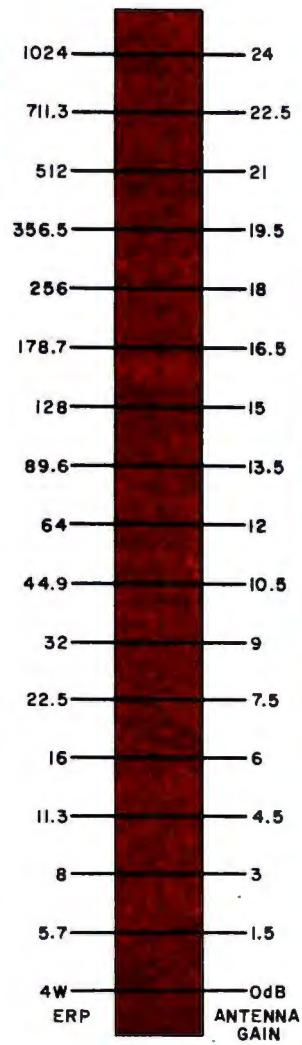

Fig. 4. Three simple antennas: (A) horizontal dipole; (B) vertical (coaxial) dipole; (C) ground plane.
Simple Antennas. The two basic antennas that are used in communications are the *dipole* and *ground plane*. Dipoles are formed by splitting a piece of wire one-half wavelength (the distance a radio wave travels in 180° of one cycle), and feeding it with a transmission line. The antenna can be installed in either the horizontal (A) or vertical (B) plane, as shown in Fig. 4. The *coaxial* dipole is often used because it is vertically polarized. One half of the dipole is a rod or wire connected to the inner conductor of the coaxial feedline. The other half is a piece of tubing tied to the outer conductor or "braid" of the coaxial line. Each element of the dipole is one-quarter wavelength ($\lambda/4$) or about 9 feet.
usable screws in place under the dash—but be sure not to impair the use of the glove compartment door when positioning the speaker. Mount the bracket, attach the speaker, and connect the speaker wire to the appropriate jack on the transceiver. Although the power lead can be cut to the right length, you should not shorten the speaker lead. You might want to move the speaker at some future time, so simply coil up the excess cable and tape it up under the dash. At this point, the installation should look like Fig. 4.